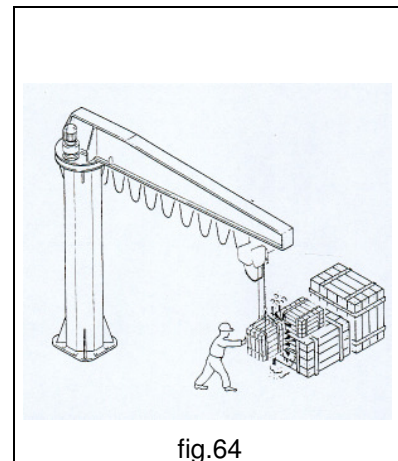

fig.64
- **ALWAYS** ascertain that the load is secure during handling operations (lifting, rotation and traversing) and is unhindered by obstacles (fig.64).